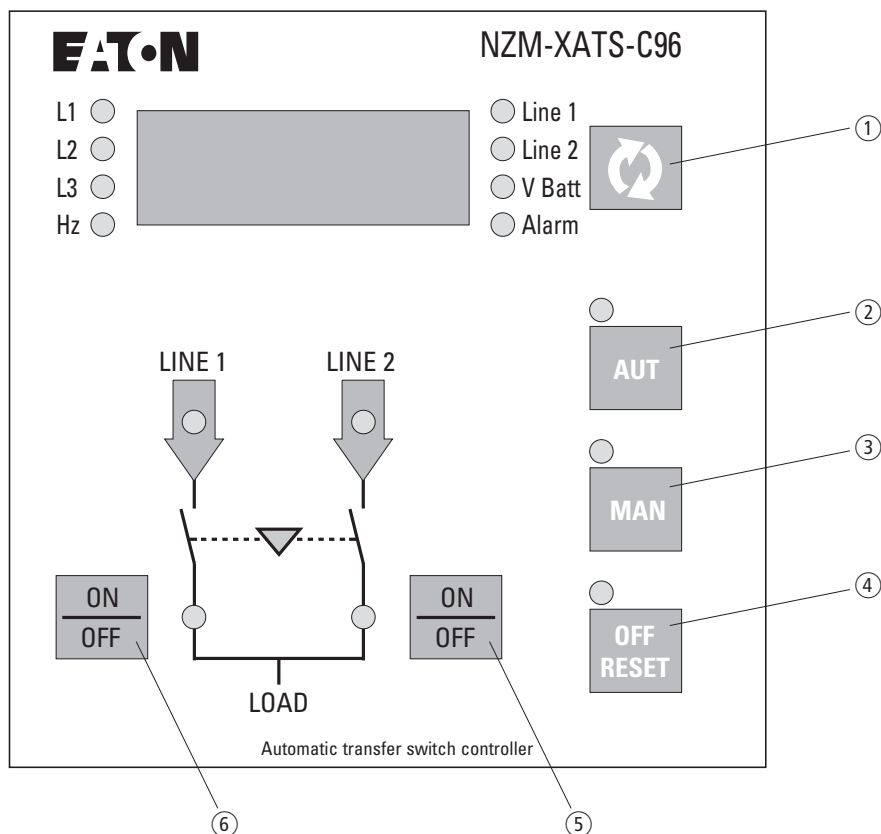

Figure 3: Keypad, pushbuttons
In MAN mode you can control the switching devices manually by pressing keys (⑤) and (⑥), → Figure 3, page 7) for at least 300 ms.